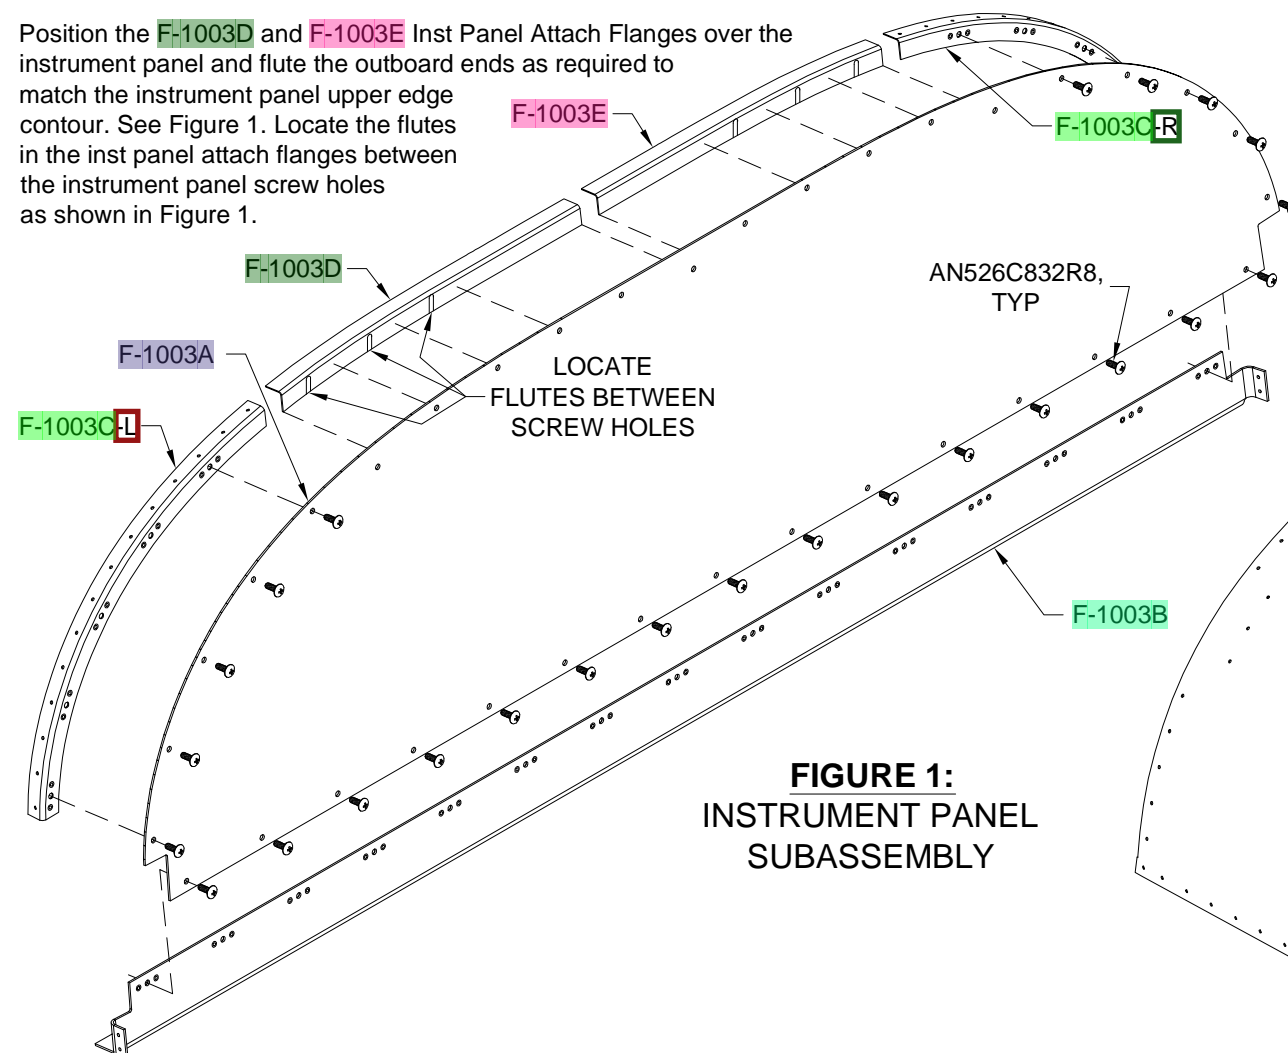

FIGURE 1:
Step 1: Attach the F-1003B Inst Panel Lower Flange and F-1003C-L & R Inst Panel Attach Flanges to the F-1003A Instrument Panel as shown in Figure 1.
Position the F-1003D and F-1003E Inst Panel Attach Flanges over the instrument panel and flute the outboard ends as required to match the instrument panel upper edge contour. See Figure 1. Locate the flutes in the inst panel attach flanges between the instrument panel screw holes as shown in Figure 1.